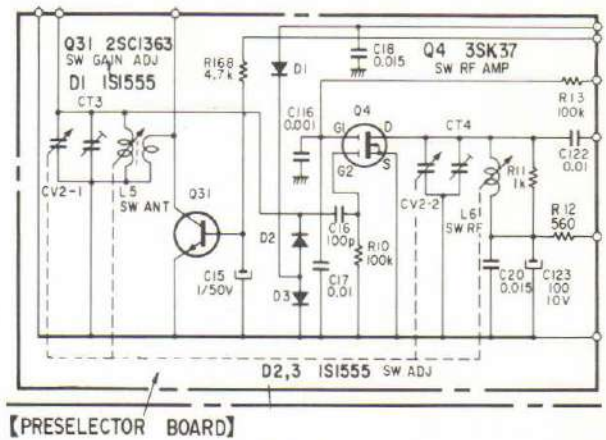

Fig. 3
3. High frequency gain adjustment See Fig. 3 and 4.